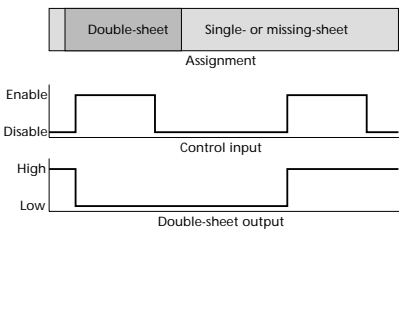

Fig. 6: dbk-4/CD/O/M18 Trigger-Mode
- If you install the transmitter in a recessed position or position a sheet guide between the transmitter and receiver, the hole must have a minimum diameter of ≥ 12 mm, but we recommend a diameter of 18 mm (fig. 6).